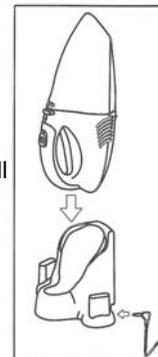

Fig. 1
3. Place the unit in the charging base. The charging indicator light will shine green to indicate that the vacuum cleaner is properly positioned in the charging base and that the unit is being charged. (See fig. 1)